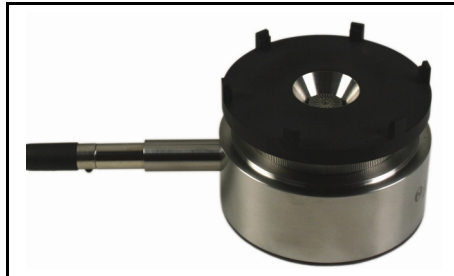

FIGURE 5-38 Type 2 adapter installed on AEC201
Step 5 For earphones designed to be calibrated with a Type 2 adapter such as the Koss HV/1A, use the Type 2 adapter, which has crenellated distance clamps around its circumference. Do not use the black conical ring (FIGURE 5-38).